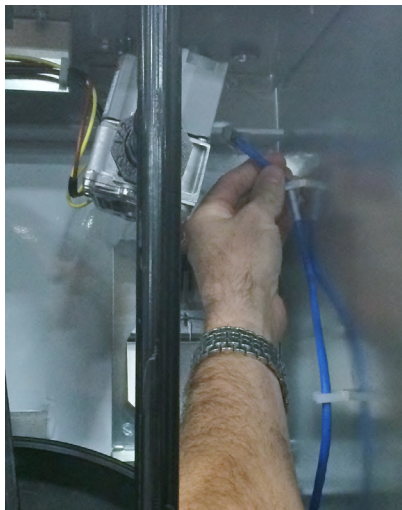
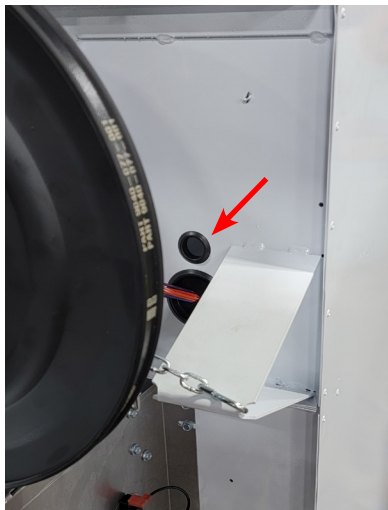

Figure 7
Figure 8
3. Once connection is verified, disconnect the Cat5E cable from the laptop and then connect the same Cat5e cable to the Dexter supplied router at the "WAN" port (Figure 8). Connect the router to power at this time using the supplied cable.
4. Connect a separate Cat5e cable from port 1 of the Dexter router to your laptop (Figure 8). Open your web browser and connect to several web sites to ensure you still have a connection to the internet. If you are unable to establish internet connection, call Dexter at 1-800-524-2954.
19. With belt guard removed, route cable down through guard (Figure 7) and then route through protected hole in rear of machine (Figure 8).